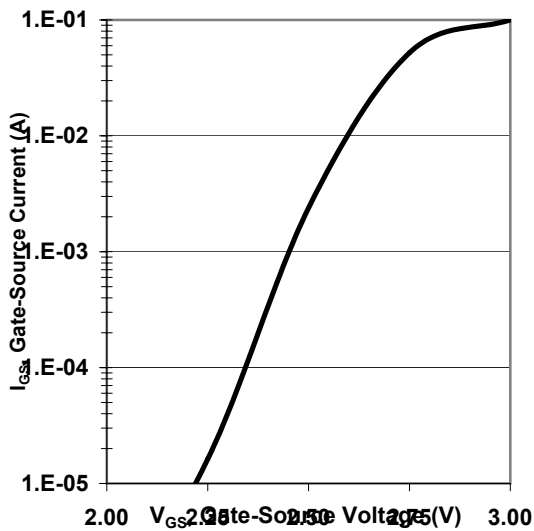

Figure 7. Gate-Source Current
R_{CL} is used to limit the continuous current flowing from the PWM/driver IC through the gate-source diode (Figure 7) of the SJEP120R125, thus setting the gate-source voltage. The maximum recommended gate-source current is 50mA. It is recommended that the maximum steady-state (DC) gate voltage be not exceed +3.0 V; however a gate-source voltage pulse to +15V may be applied during the turn-on transition. The selection of R_{CL} requires the following information:
- c. I_{gs} = Gate-source diode current at the desired gate-source voltage. I_{gs} can be estimated from Figure 7.